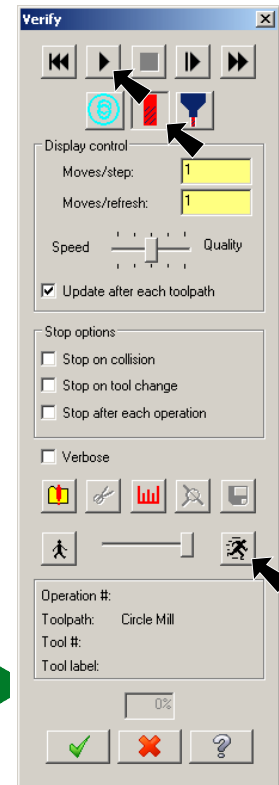

Fig. 30
Step 3. Click **Machine** quickly  in Verify dialog box, **Fig. 30**.